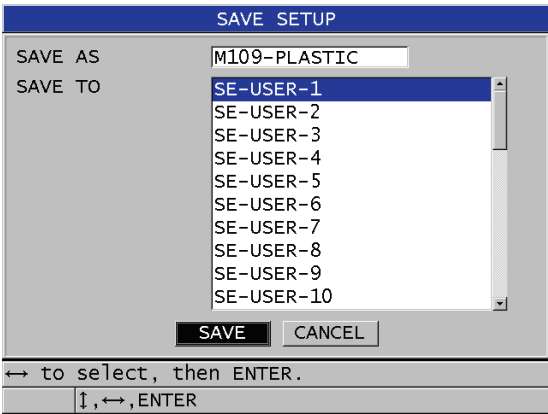

Figure 13-17 Saving custom setups
4. In the **SAVE SETUP** screen (see Figure 13-17 on page 232).